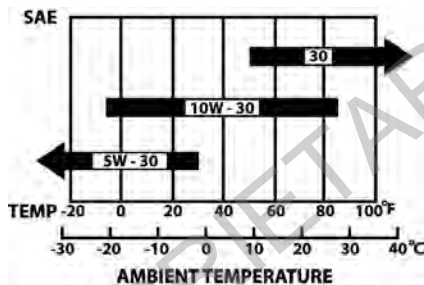

FIGURE 21: Recommended Oil Viscosity
SAE 10W-30 is recommended for general temperature use. Refer to Figure 21 for information on other viscosities that may be used. Other viscosities shown in chart may be used when average temperature in your area is within indicated range.
- Unused engine oil (SAE type indicated in Figure 21)
12. Pour new (unused) engine oil into oil fill hole. (See Figure 21 for recommended oil type). Do not overfill.